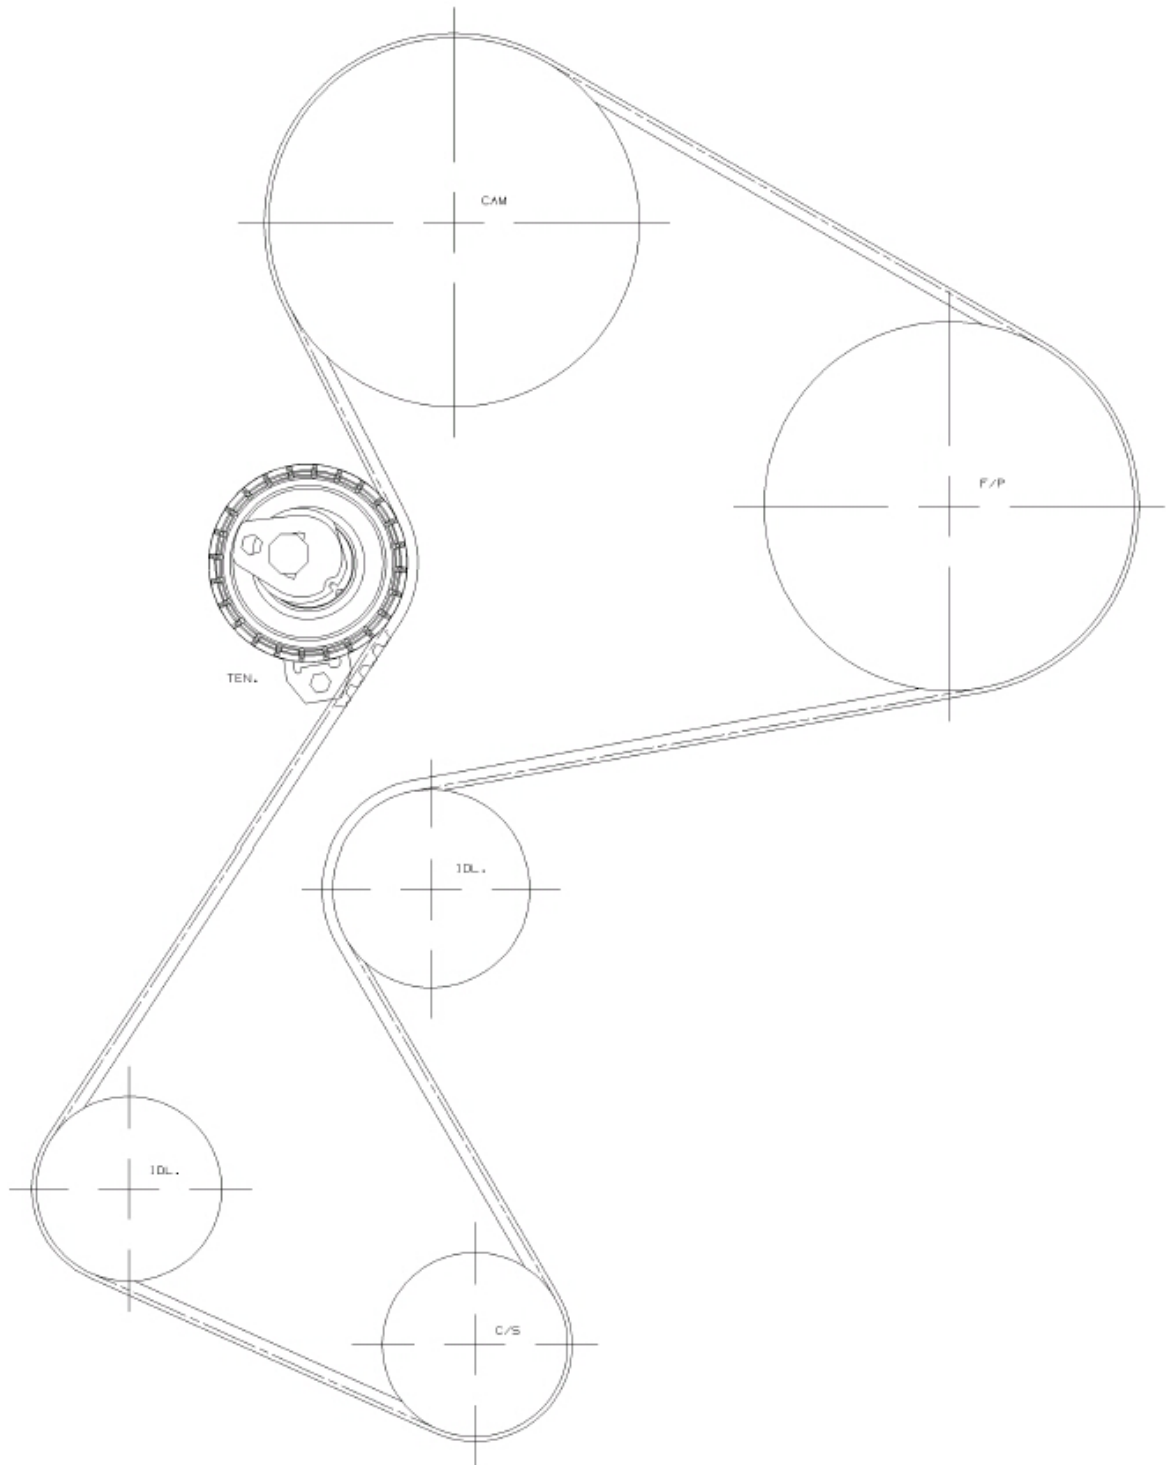

Figure 2: Drive Layout 979595 (1.9L F9Q Engine).
5. Install the timing belt in a counterclockwise direction starting at the crankshaft, being careful to engage the appropriate teeth of all the corresponding sprockets as per drive layout (See Figure 2).